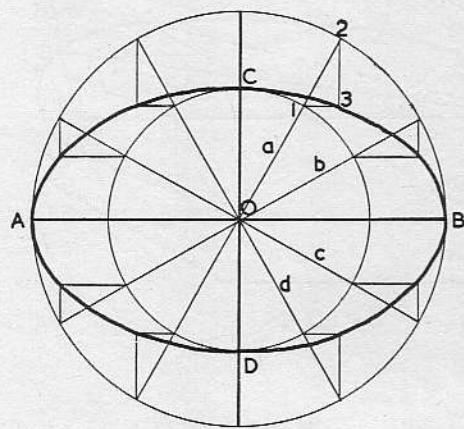

FIG. 23
Method A (Fig. 23):
3. With O as centre and OC as radius draw a concentric circle as shown in Fig. 23.